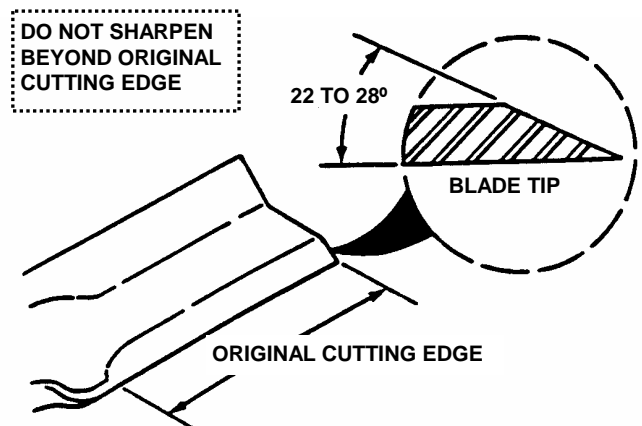

FIGURE 4.12
6. If blade is in good condition, sharpen at 22 to 28 degrees. DO NOT sharpen beyond existing cutting edge. See Figure 4.12.